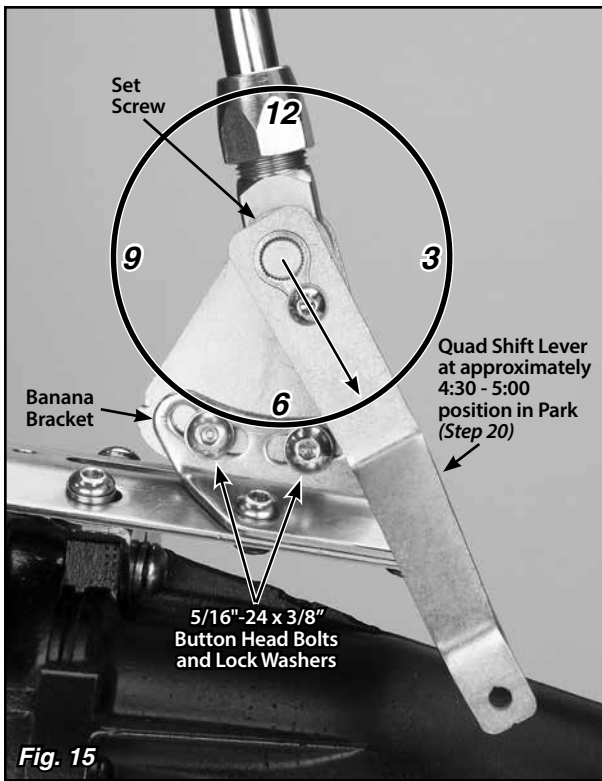

Fig. 15
Step 19: Make sure the two 5/16"-24 x 3/8" button head bolts and lock washers that attach the driver side banana bracket to the shifter assembly (in the curved, slotted holes) are tight. Before tightening the shifter assembly to the main plate, move the shifter lever through all the gear positions. Make sure the shifter lever and knob will not come in contact with the dash or the seat. The shifter assembly can be tilted forward or backward if needed by loosening the 5/16"-24 x 3/8" button head bolts and lock washers in the curved, slotted holes in the driver side banana bracket. **Fig. 15**
Step 20: Make sure the shifter lever is in the Park position. Temporarily place the quad shift lever in position on the quad lever bushing as shown in Fig. 15. Check for interference with the vehicle floor. With the shifter lever in Park, the quad shift lever should be pointing towards approximately the 4:30 – 5:00 position.
Double check to make sure the bolts connecting the **driver** side banana bracket to the shifter assembly are tight. **Fig. 15**